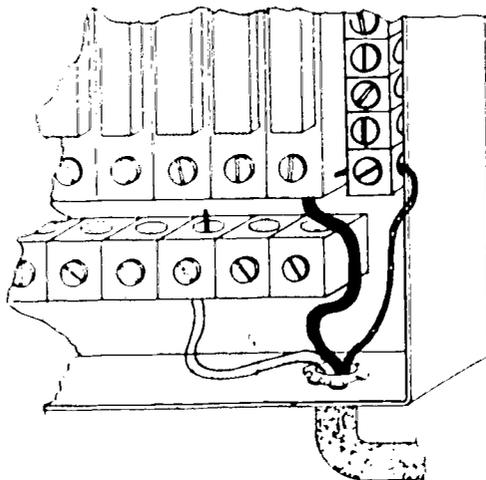

FIGURE 7
- P. Connect ungrounded conductor to appropriate overcurrent device (Figure 7)